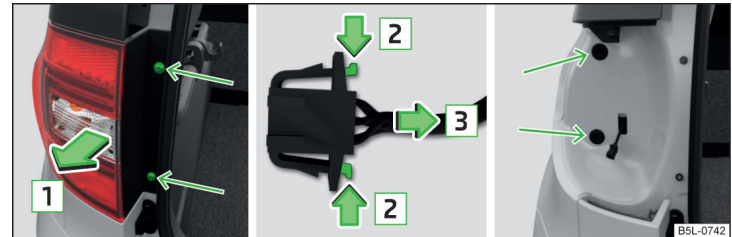

Fig. 204 Remove light / pull out connector
- › Use the screwdriver from the tool kit to unscrew the lamp » Fig. 204.
- › Grasp the light and carefully remove with shaky movements in the direction of arrow 1 » Fig. 204.
- › Insert the light into the mounts in the body » Fig. 204.
- › Screw the light with the screws into place » Fig. 204.